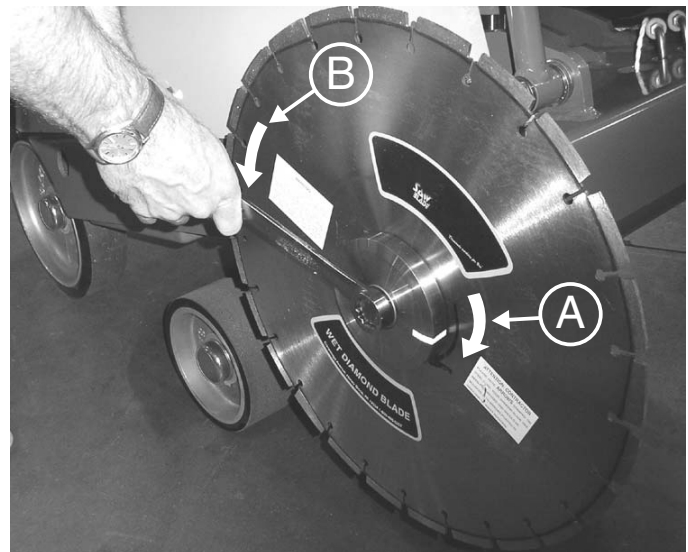

Figure 11. Aligning Flange Pin Through Blade
3. Taking note of the direction of rotation of the blade, (Item A, Figure 12) insert the bushing and mounting bolt through the outer flange and blade. (See Figure 11.)